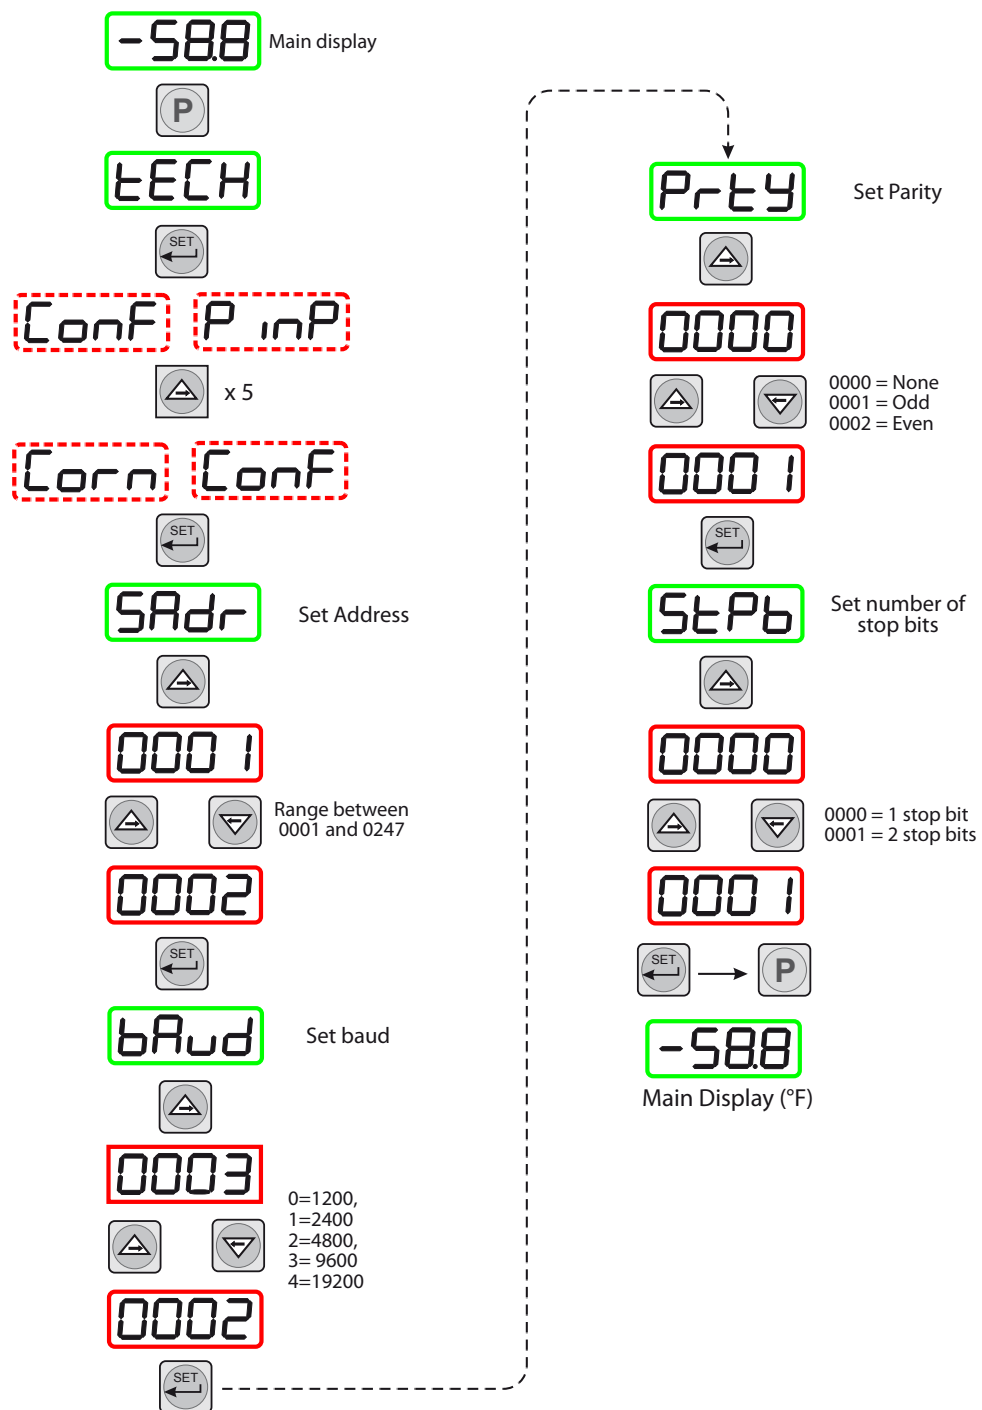

Figure 29 Set-up Data Communications Parameters
*Figure 29* shows the operational key sequence.